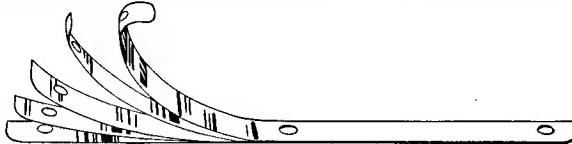

Fig. 6
No play should ever be present in the knee slides. Shims between the knee and knee anchor plates afford necessary take-up odjustment. The shims are .010" thick and made up of (4) .002" and (2) .001" leaves held together with o light film of salder ond can easily be separated with a knife blade. See Fig. 6. The .001" side is calared grey.